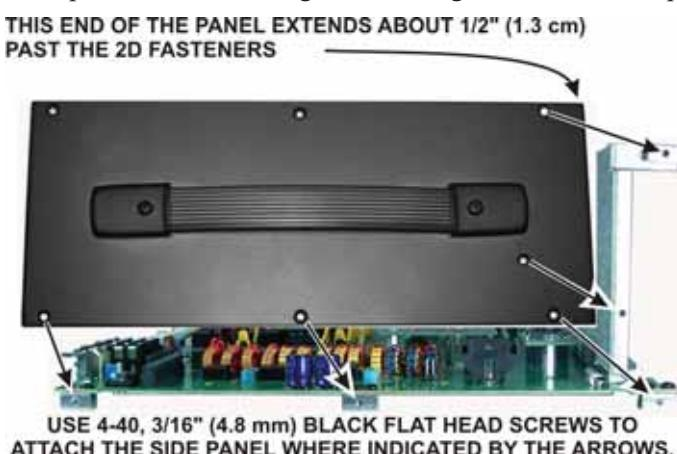
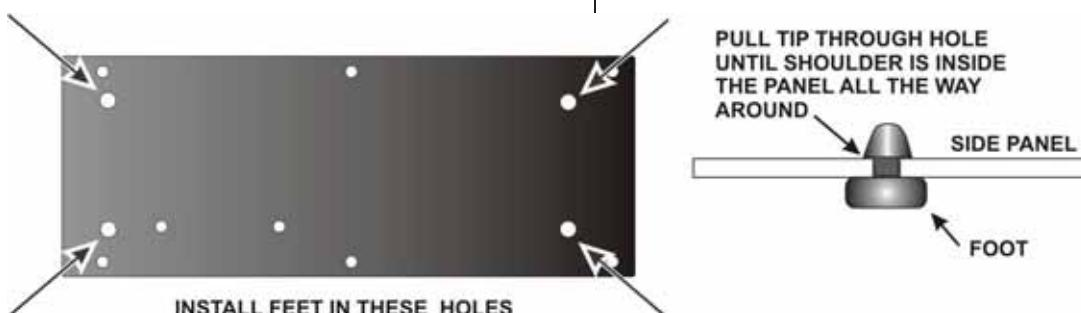

Figure 16. Mounting Left Side Panel.
Figure 21. Installing Side Panel Feet.
Locate the two side panels. They are approximately 4" (10 cm) by 9-7/8" (25 cm) in size. Both panels have six counter-sunk screw holes near the edges. Note that the countersunk holes are farther from one end than the other. This is important. You will need to orient the panels correctly as you install them. The side panels are different as well. In addition to the six counter-sunk screw holes, the left side panel has two holes near the centerline for attaching the handle. The left side panel with the handle attached is shown in Figure 16. The right side panel has six additional holes; four for mounting the side feet and two for attaching other parts inside the K3 (see Figure 21). Set the right side panel aside for now.
Attach the left side panel to the RF board assembly as shown in Figure 16 using five 4-40 3/16" (4.8 mm) black flat head screws. Do **not** use washers. When the panel is oriented correctly, the edge of the panel will extend about 1/2" (1.3 cm) past the 2D fasteners at the front panel shield. If the threaded holes in the 2D fasteners don't line up properly with the holes in the side panels, temporarily loosen the screws attaching the 2D fastener to the RF board or front panel shield, then tighten them again after the side panel is installed.
- Install the four rubber side feet in the holes in the right side panel as shown in Figure 21. Two suggested procedures for doing this are as follows: